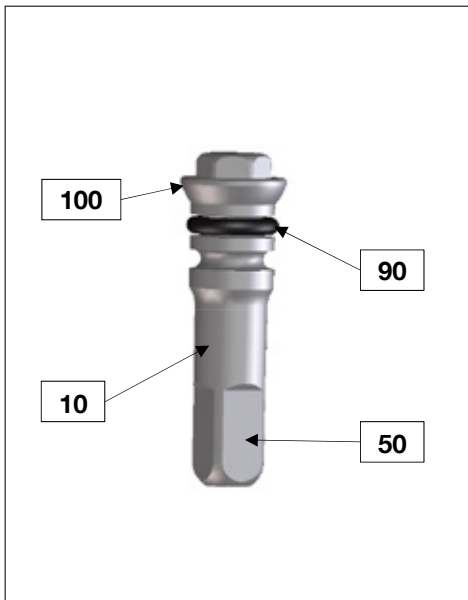

Fig. 60
Whenever you proceed to remove the nipple (10 Fig.60) you will need to clean the seat (80) of the rim (20). For the cleaning of the latter make sure to use a soft bristle brush moistened with a common clean hydrocarbon (gasoline, gas oil or alike). Make sure that after the cleaning no bristle has been left on the surfaces. Grease the seat with a common PTFE grease (Alpina Raggi recommends PTFE grease by Lochim).